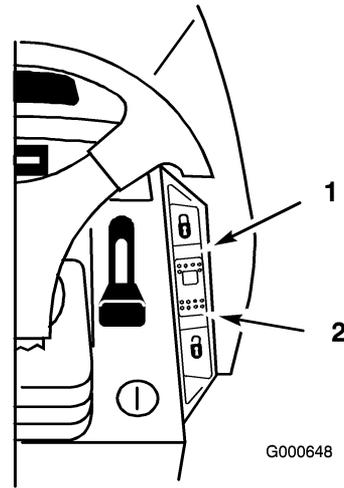

Figure 28
A three position switch, located on the dash (Figure 28), with the functions of: Lock-Set (spring loaded), On and Unlock-Off controls the engagement. Cruise control maintains the traction control position without foot pressure. Cruise control is intended for operation in the forward direction only. Do not use cruise control in reverse.
1. Begin driving tractor: Refer to Driving Forward or Backward in Operation Operation, page 19 . While holding your foot steady on the traction control, push the cruise control switch (Figure 28) to the lock-set position.
1. While holding your foot steady on the traction control, move the cruise control switch (Figure 28) to the unlock-off position.